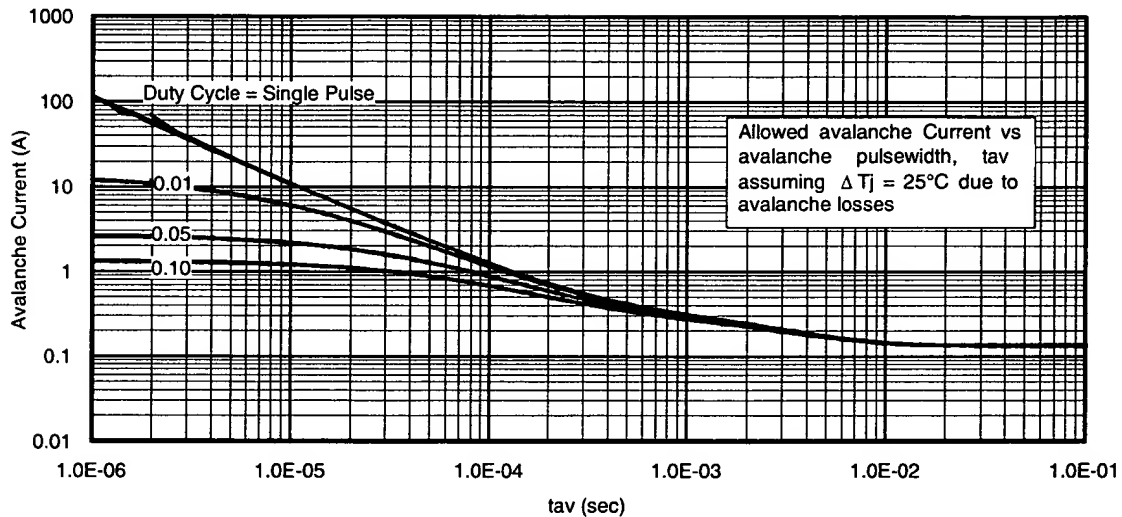

Fig 14. Typical Avalanche Current Vs. Pulsewidth
- ① Repetitive rating; pulse width limited by max. junction temperature.
② Starting  $T_J = 25^\circ\text{C}$ ,  $L = 1.62mH$ ,  $R_G = 25\Omega$ ,  $I_{AS} = 11A$ .
③ Pulse width  $\leq 400\mu s$ ; duty cycle  $\leq 2\%$ .
- ④  $R_G$  is measured at  $T_J$  of approximately  $90^\circ\text{C}$ .
⑤ Limited by  $T_{Jmax}$ . See Figs. 14, 15, 17a, 17b for repetitive avalanche information.
**Notes on Repetitive Avalanche Curves , Figures 14, 15:**
7.  $\Delta T$  = Allowable rise in junction temperature, not to exceed  $T_{jmax}$  (assumed as 25°C in Figure 14, 15).